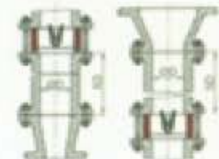

Fig.5
- Never mount a reducer just in front of or behind wafer Check. Leave a space of 5 times the valve diameter (5D) or more. (Fig.5)